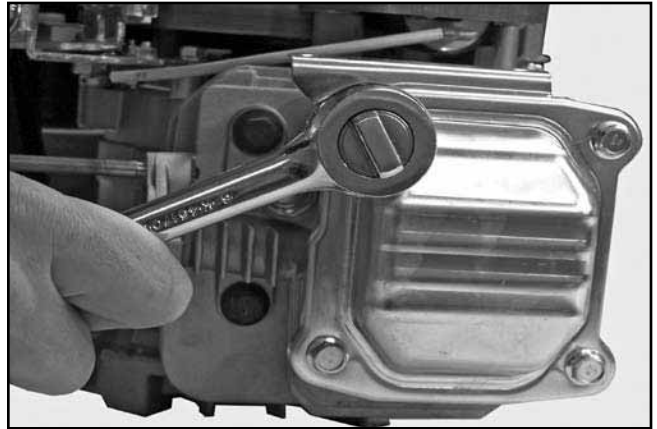

Figure 8-34. Removing Valve Cover.
2. Remove the cover and the gasket. See Figure 8-34.